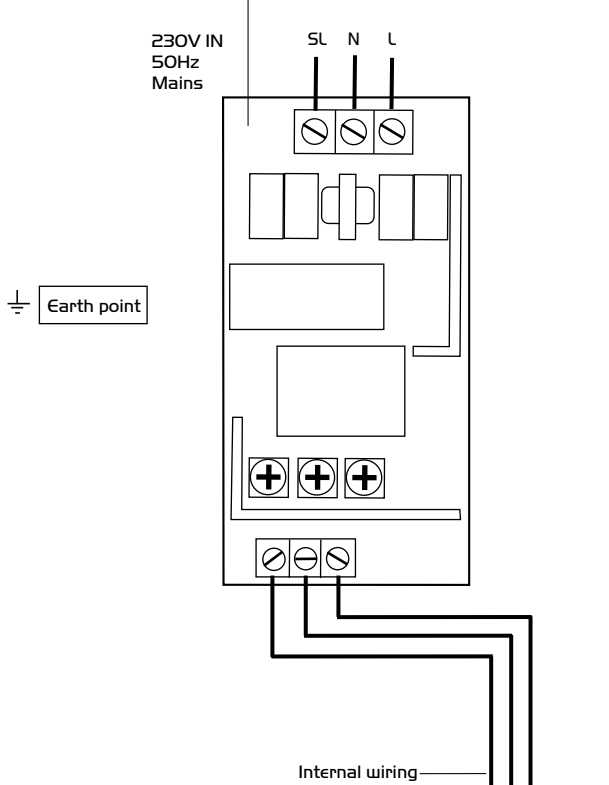

Figure 7b.
**Ecosmart control** (see figure 7b)